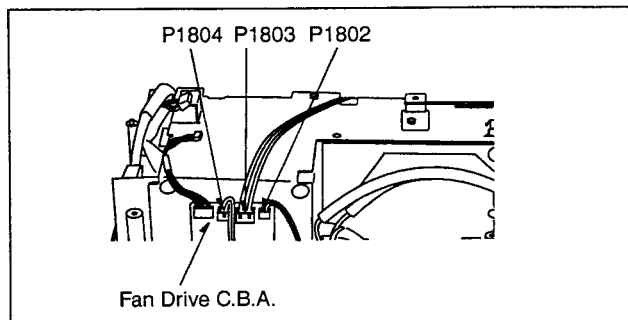

Fig. D11
2. Disconnect a connector P1803 on the Fan Drive C.B.A. as shown in Fig. D11.
4. Disconnect 2 connectors P1802 and P1804 on the Fan Drive C.B.A and carefully pull out the Optical Block as shown in Fig. D11, Page3-8.